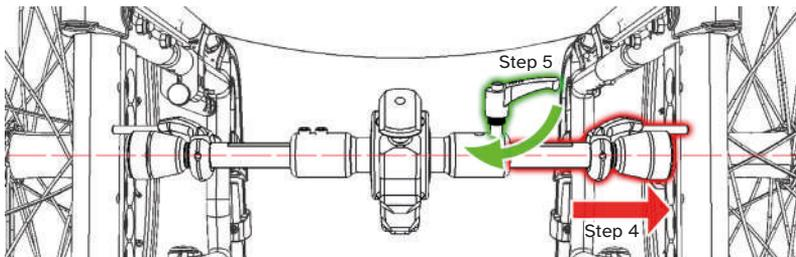

Figure 19
- Extend the telescopic axle until it reaches the maximum possible extension between the wheels of the wheelchair (Figure 19).
- Tighten the fixing lever to secure the telescopic axle in position (Figure 19).